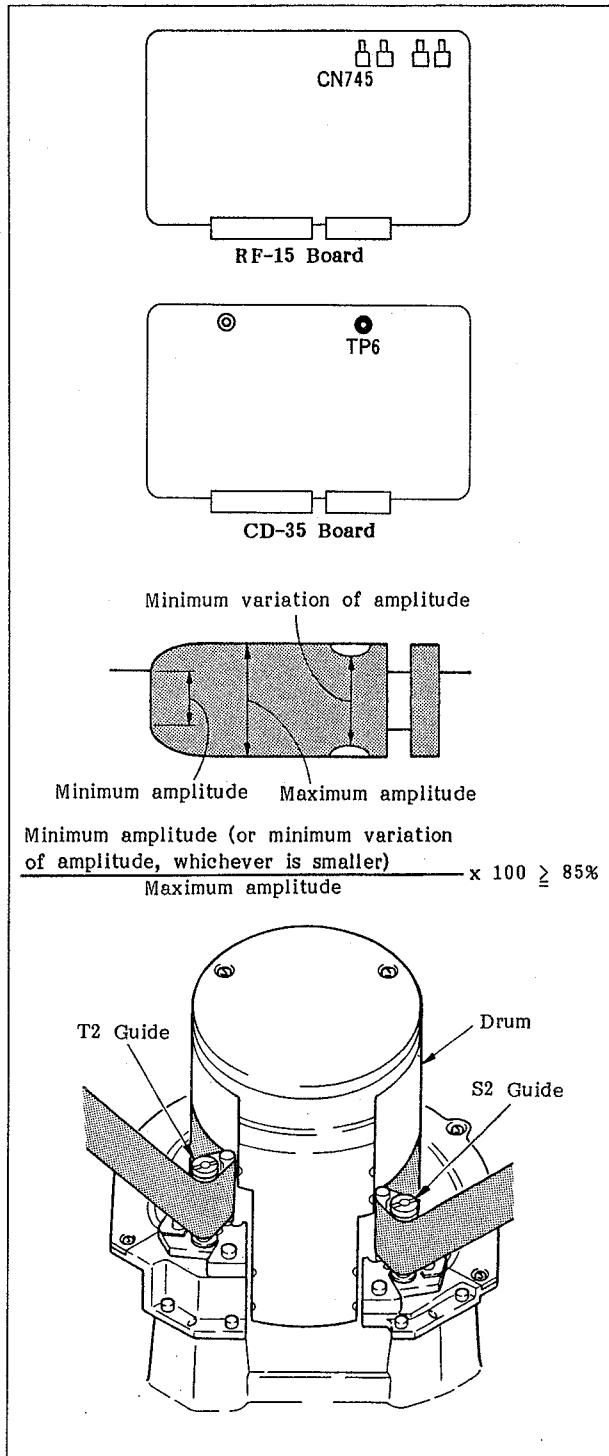

Fig. 9-11 Tracking Check
3. Press the [TEST], the [F2] (RF) and the [F1] (CONTINUE) keys on the control panel in sequence.
9. Make sure that the RF waveform satisfies the standard shown in Fig. 9-11. If it does not, perform the adjustment section first. Make sure that the upper and lower envelopes of the RF waveform are parallel each other when the tracking knob is turned back and forth. If it does not, perform the tracking adjustment.